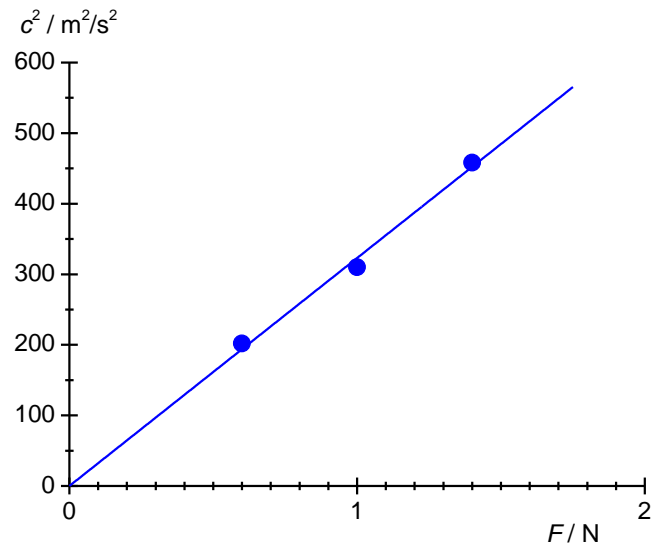

Fig. 8: Square of wave propagation speed  $c^2$  for waves on a rope as a function of  $F$ .
- Calculate the squares of the speeds of propagation of the waves  $c^2$  and enter them into Table 4. Plot these values against the force of tension  $F$  and fit a straight line to the points (Fig. 8).
- Use equation (8) to obtain the mass per unit length of the rope  $\mu$  from the gradient by forming the inverse.